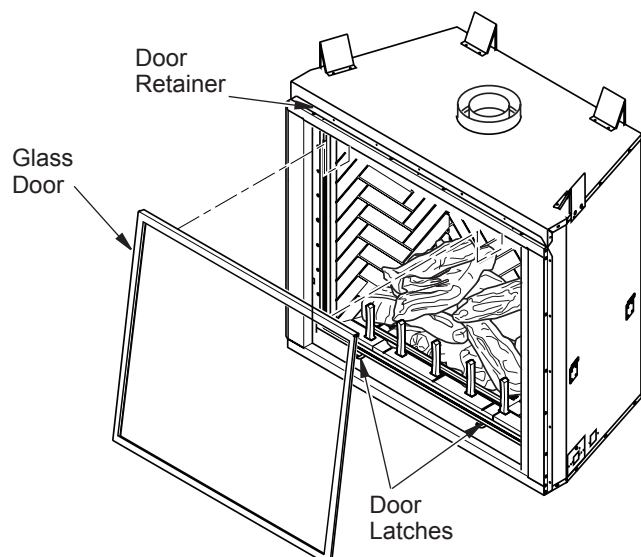

Figure 2 - Removing Glass Door
4. Tilt open glass door 30° from bottom of firebox and lift up to release door from firebox top retainer (see Figure 2).